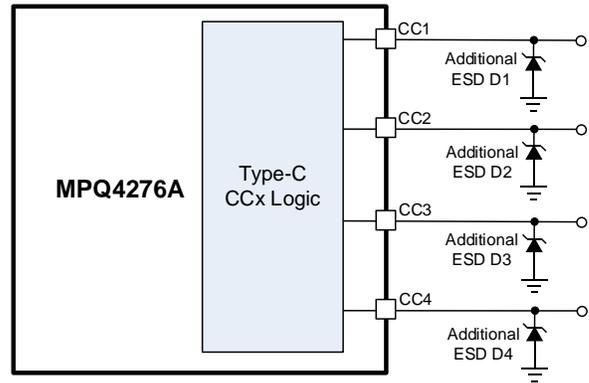

Figure 11: Enhancing ESD on the CCx Pins
Higher ESD levels should be considered for all USB I/O pins. The MPQ4276A features high ESD protection up to ± 7 kV on a human body model (HBM) on USB1 and USB2, and ± 1.8 kV on a HBM on CC1, CC2, CC3, and CC4. The ESD structures can withstand high ESD during normal operation and when the device is turned off. To further extend CCx’s ESD level for most application environments, additional ESD diodes can be placed on the CCx pins (see Figure 11).
12) See Figure 11 on page 21 for details on how to enhance the ESD protection ratings on the CCx pins.